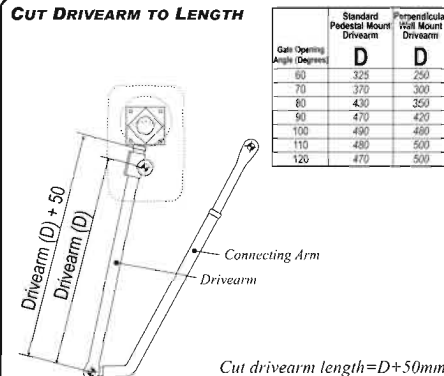

Figure 6 Cut Drive Arm Length
- Then cut the drivearm 50mm longer than D, as shown in Figure 6.